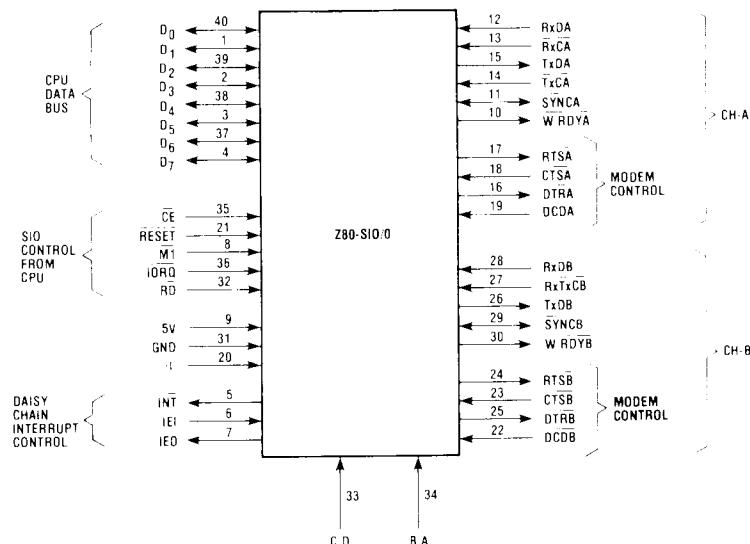

Figure 1. Z80-SIO/0 Pin Configuration
- Z80-SIO/0 has all four signals, but $\overline{\text{TxC}}\text{B}$ and $\overline{\text{Rx}}\text{C}\text{B}$ are bonded together (Fig. 1).